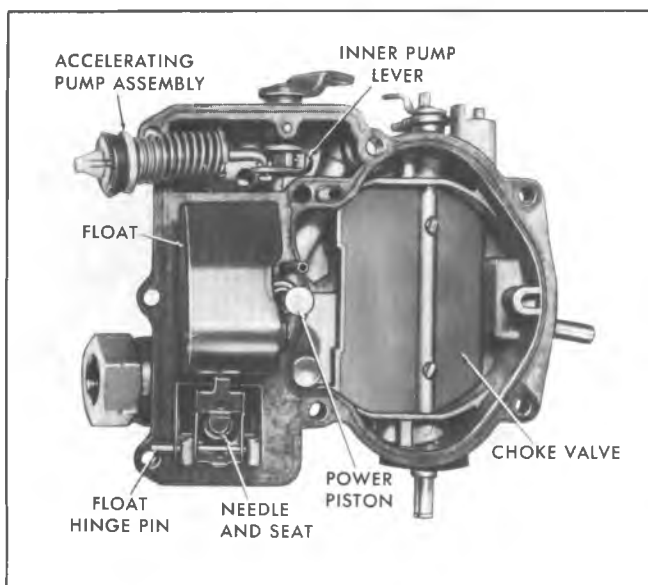

Fig. 4C-Air Horn
8. Place air horn on flat surface. Remove float hinge pin and lift float from air horn. Float needle, and pull clip (if used), may now be removed from float arm (Fig. 4C).
Air Horn (Fig. 4C)